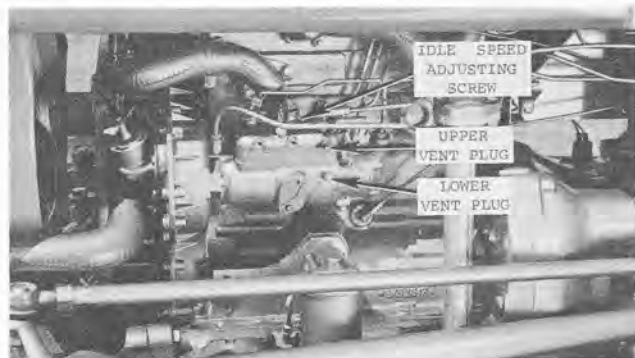

Fig. 55 - Injection Pump
3. Loosen the lower vent plug on the injection pump body and operate the primary pump manual lever until air-free fuel flows out this port. Tighten the vent plug. (See Fig. 55.)
4. Loosen the upper vent plug on the injection pump body and operate the primary pump manual lever until air-free fuel flows out this port. Tighten the vent plug. (See Fig. 55.)
Idle Speed Adjustment (See Fig. 55)